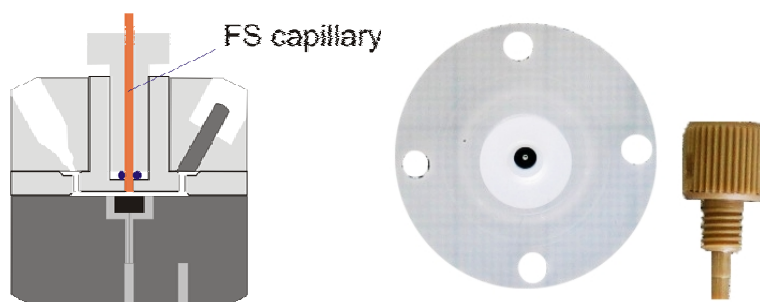

Fig. 10. Sencell micro flow cell. Right: the inlet (top view) and fingertight.
Fused silica (FS) columns (< 1 mm ID): The micro flow cell has an inlet block that is specially designed for coupling with FS columns (Fig. 10). The capillary column can be inserted all the way to the working electrode resulting in zero dead volume.
To prevent any damage to the flow cell the following steps should be carried out (Fig. 10):